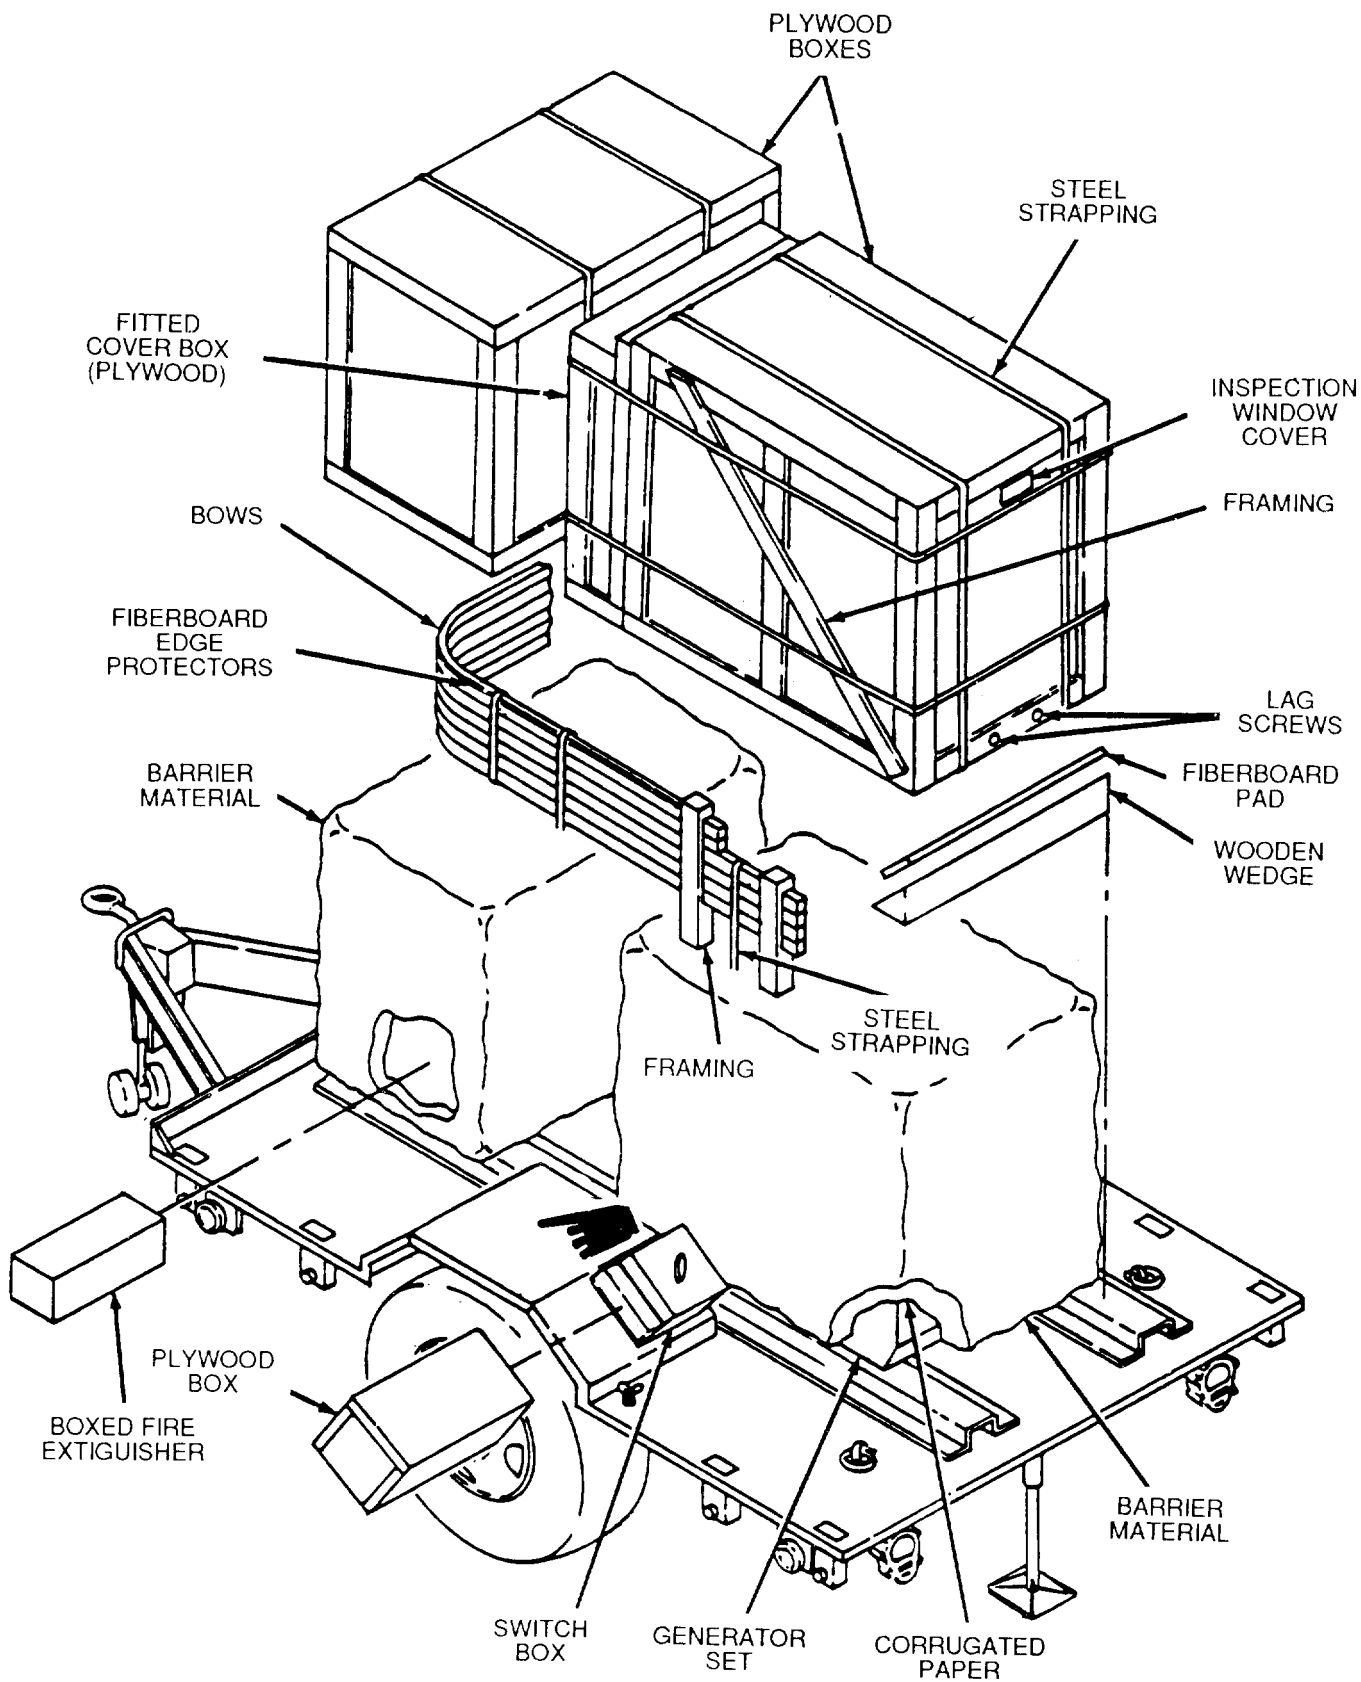

Figure 4-1. Unpacking Power Plant.
*a. Unpacking Power Plant.* (See figure 4-1.) The generator sets are packed in place on the trailer body. Before beginning the unpacking procedure, locate, remove, and save the two Depreservation Guides.